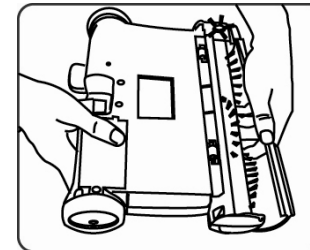

Fig. 11
4. Periodically remove the transparent brush cover on the front of the cordless sweeper and remove any build up of lint, hair or fiber on the rotating brush. To remove the cover - grip the cover from the bottom, pull out and upward until the cover unlocks from the side slots and tabs located on the top of the sweeper. Carefully cut away threads or hair with scissors. (Fig. 11)
1. Remove the brush cover. (Fig. 11)
11. Replace the brush cover (Fig. 11)